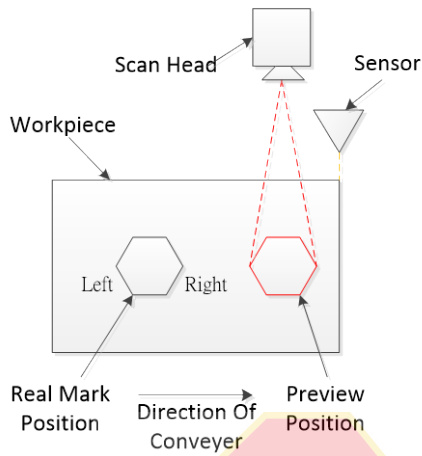
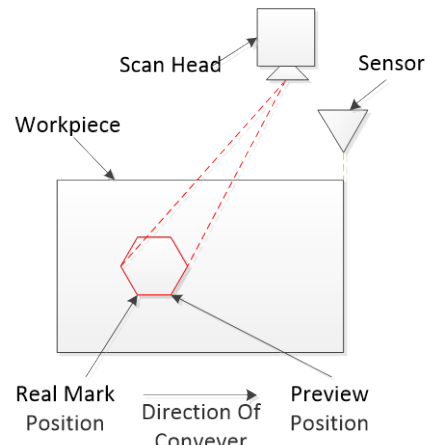

Fig. 8.2.04 Different Position
Fig. 8.2.05 Same Position
When using “Mark On Fly” function, users will find that the preview mark position and the real marking position are not the same, see Fig.8.2.04. This is because there will have a tiny delay time between the sensor inducts the work piece and the laser starts to mark. This delay time and the speed of conveyer will cause this status. As a result, users can fix this status by modifying “**Start Signal Lag**” and make the position of preview and real marking be the same, see Fig.8.2.05.
- III. The arrangement of Mark On Fly device, workpiece and sensor must be placed such as Fig.8.2.04.
Take Fig.8.2.05 for example. Suppose users set this value as 100. If the preview result located on the right side of real mark position, then increase the setting value. On the contrary, decrease the setting value.